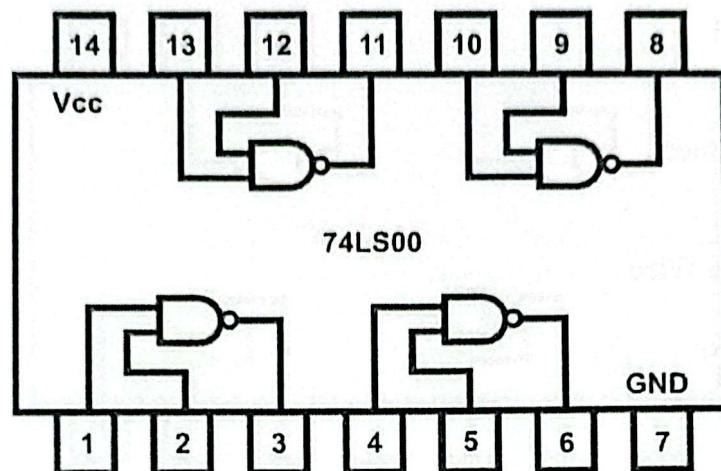

Fig. 5.2
4. Wire the circuit according to the diagram in figure 5.1 by consulting OR gate IC's data sheet in fig 5.2.